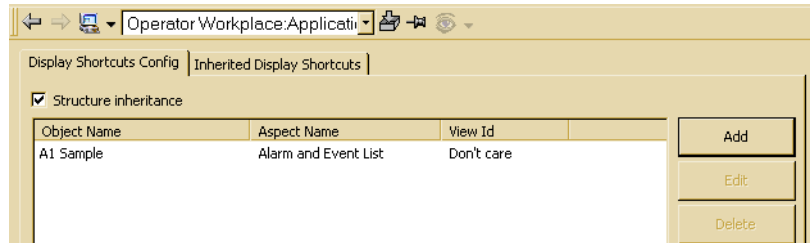

Figure 26. Dialog Box for Edit of Application Bar Shortcut
2. Open the configuration view and click **Add**. See Figure 26.